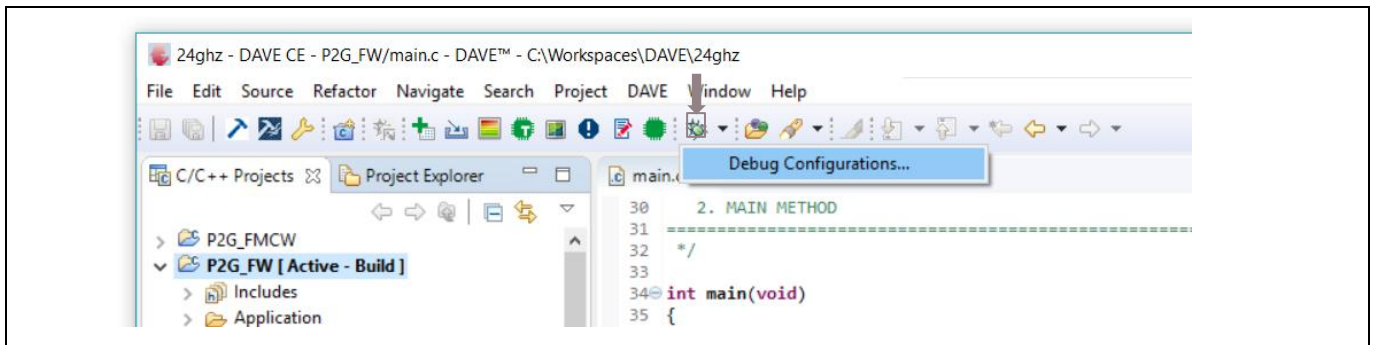

Figure 28 Start debug session toolbar button
- Set debug configurations by clicking on the drop-down menu of the **Debug** toolbar button (bug icon) and selecting **Debug Configurations...** as shown in Figure 28. Alternatively, press key F11 to directly start the debug session.